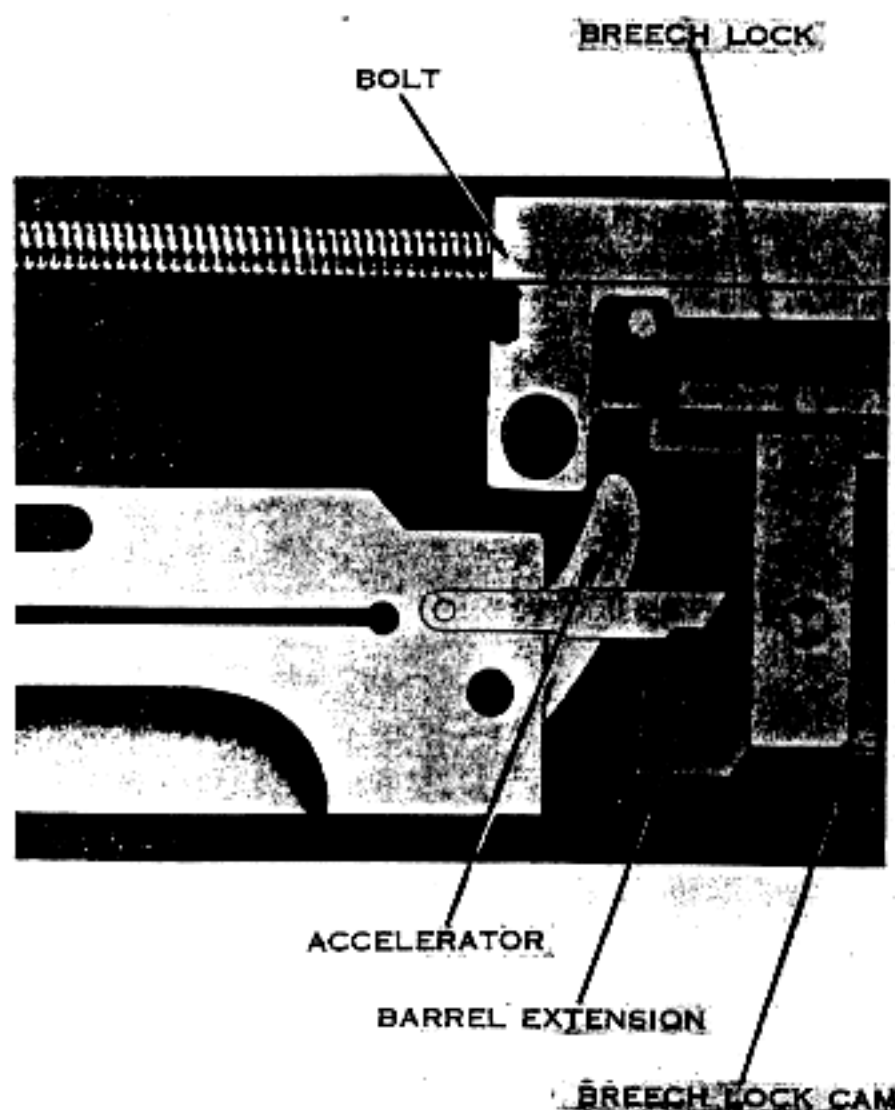

Figure 94. Locking-recoiling groups locked together.
c. Locking begins  $1\frac{1}{8}$  inches before the recoiling groups (bolt, barrel extension, and barrel) are fully forward. The breech lock in the barrel extension rides up the breech lock cam in the bottom of the receiver into the breech lock recess in the bottom of the bolt, locking the recoiling groups together. The recoiling groups are completely locked together three-fourths of an inch before the groups are fully forward (fig 94).
a. At the instant of firing, the bolt is locked to the barrel extension and against the rear end of the barrel by the breech lock, which is on top of the breech lock cam and in the breech lock recess in the bottom of the bolt (fig 94).